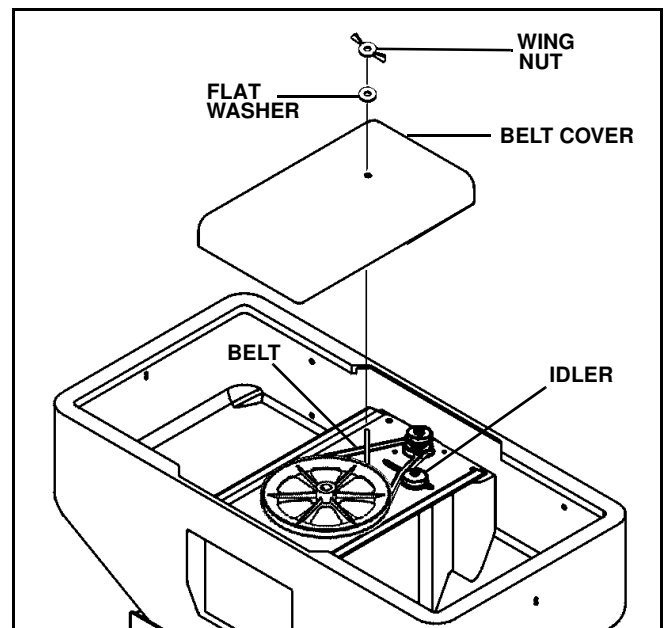

Figure 2-4
5. Loosen wing nut and washer securing belt cover to crossbrace. (See Figure 2-4)